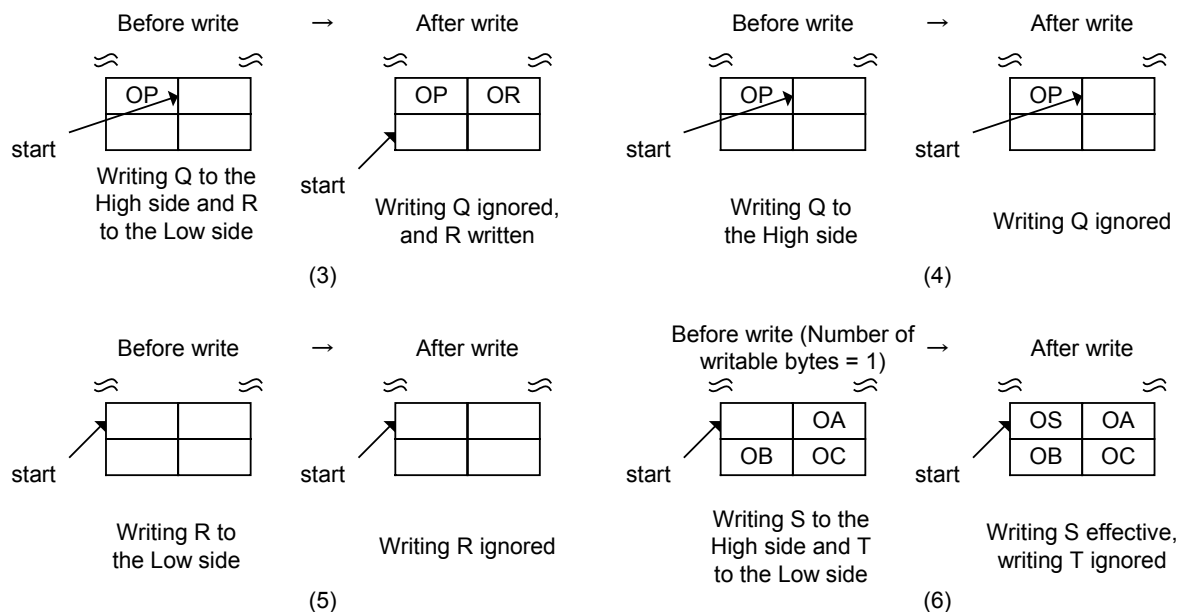

Fig. 6.73 FIFO write processing (operations that require caution)
If data is written wordwise while the FIFO has a byte boundary in it, a write to the High side is ignored, and data is written to only the Low side ((3) in Fig. 6.73). This is the same as writing data to the Low side byte-wise. Furthermore, if data is written to only the High side while the FIFO has a byte boundary in it, the write operation performed is ignored ((4) in Fig. 6.73).
If data is written to only the Low side while the FIFO has no byte boundary in it, the write operation performed is ignored ((5) in Fig. 6.73). Furthermore, if data is written wordwise while the FIFO has no byte boundary in it and the number of writable bytes is 1, a write to the Low side is ignored and data is written to only the High side ((6) in Fig. 6.73). This is the same as writing data to the High side byte-wise.